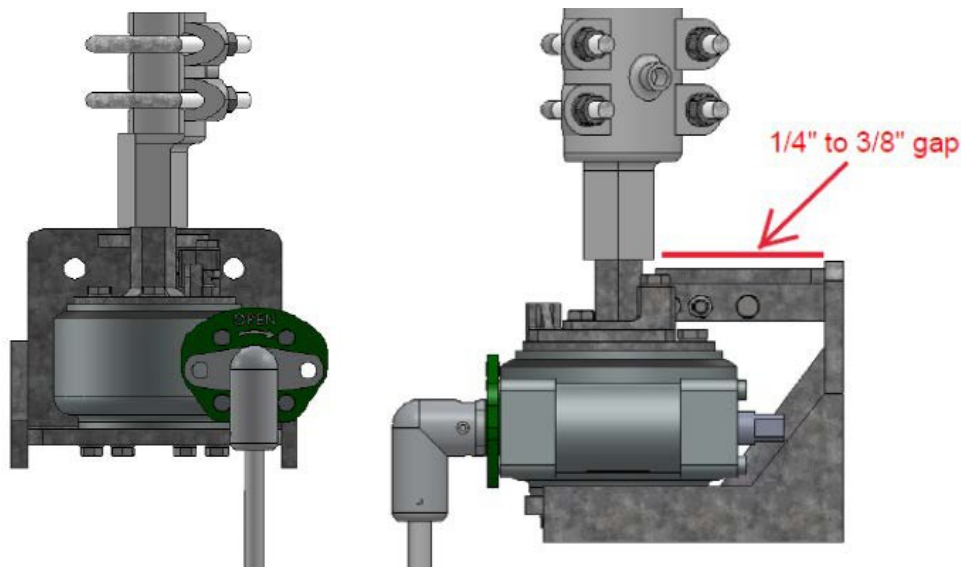

Figure 17: Type SEGO (Safety Enhanced Gear Operator)
- 5.7 **CAUTION:** The pipe collar (above the vertical bearing support) must support the entire weight of the vertical operating pipe. **Do not allow the pipe to rest on the switch operating device.** Refer to **Figure 16** & **Figure 17**.